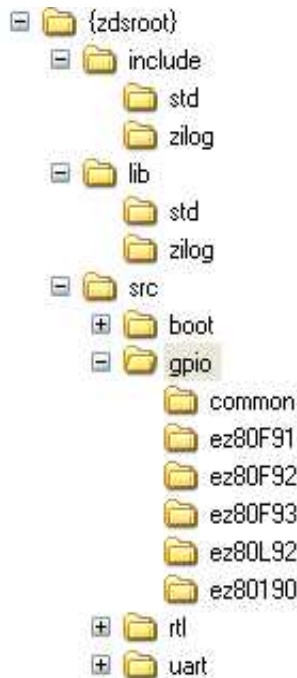

Figure 2. ZSL Directory Structure
Figure 2 displays the directory structure of the ZSL. Table 4 on page 3 describes the contents of the ZSL sub-directory.
► **Note:** In Figure 2, `\{zdsroot}` specifies the root directory of the ZDS II installation, for example, `ZDS II_eZ80Acclaim!/eZ80AcclaimPlus!_4.8.0` and later.